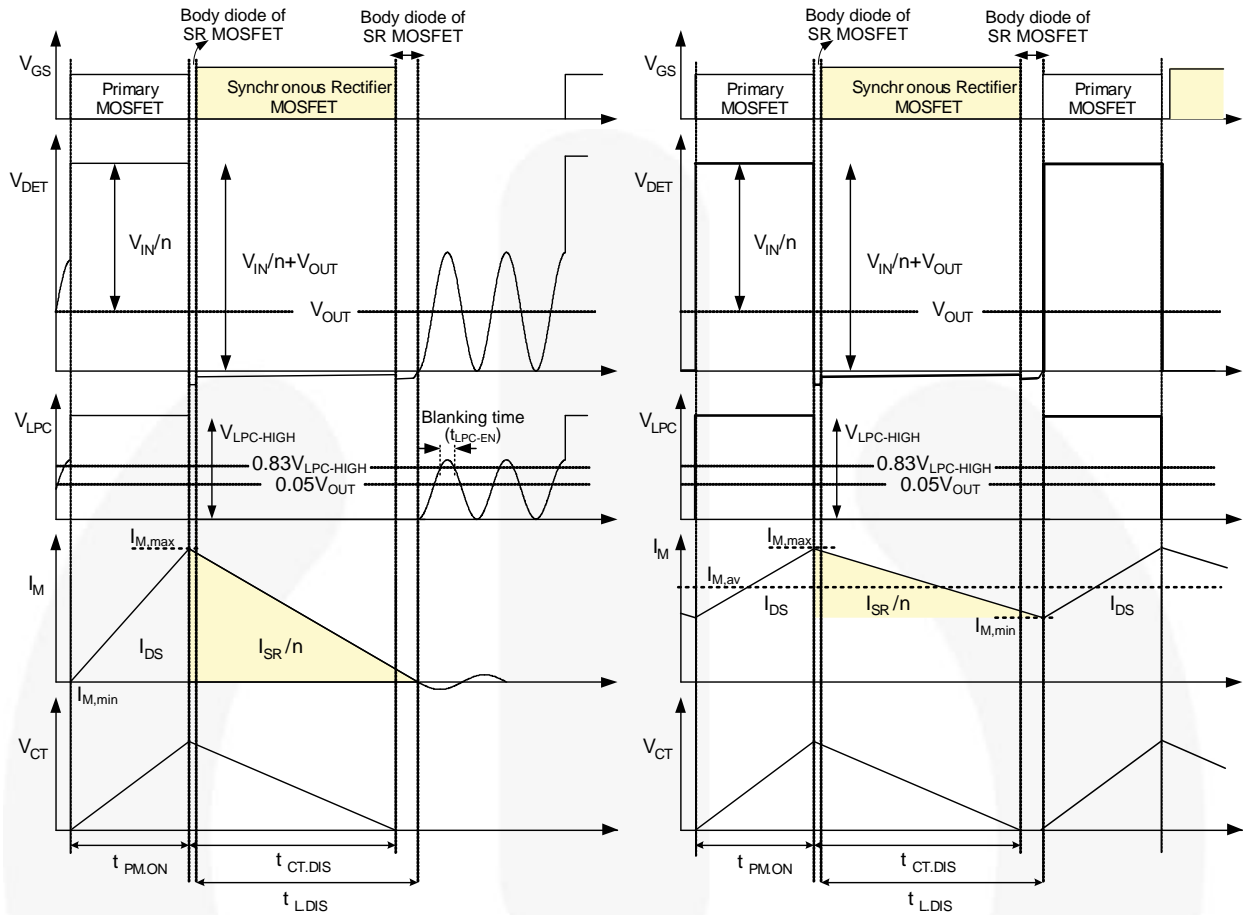
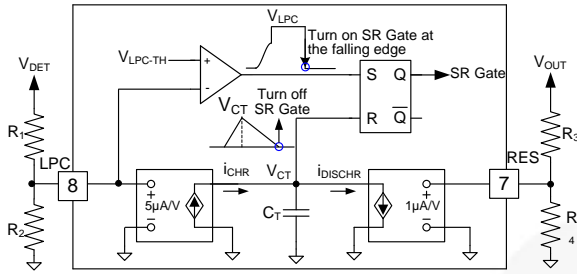

Figure 18. Typical Waveforms of Linear-Predict Timing Control in CCM and DCM/QR Flyback
Figure 19. Simplified Linear-Predict Block
The SR MOSFET turn-off timing is determined by linear-predict timing control and the operation principle is based on the volt-second balance theorem. The volt-second balance theorem states that the inductor average voltage is zero during a switching period in steady state, so the charge voltage and charge time product is equal to the discharge voltage and discharge time product. In flyback converters, the charge voltage on the magnetizing inductor is input voltage (V_{IN}), while the discharge voltage is nV_{OUT} , as the typical waveforms show in Figure 18. The following equation can be drawn:
FAN6204 uses the LPC and RES pins with two sets of voltage dividers to sense DET voltage (V_{DET}) and output voltage (V_{OUT}), respectively; so V_{IN}/n , $t_{PM,ON}$, and V_{OUT} can be obtained. As a result, $t_{L,DIS}$, which is the on-time of SR MOSFET, can be predicted by Equation (1). As shown in Figure 18, the SR MOSFET is turned on when the SR MOSFET body diode starts conducting and DET voltage drops to zero. The SR MOSFET is turned off by linear-predict timing control.
The linear-predict timing-control circuit generates a replica (V_{CT}) of magnetizing current of flyback transformer using internal timing capacitor (C_T), as shown in Figure 19. Using the internal capacitor voltage, the inductor discharge time ($t_{L,DIS}$) can be detected indirectly, as shown in Figure 18. When C_T is discharged to zero, the SR controller turns off the SR MOSFET.
Referring to Figure 18; when LPC voltage is higher than V_{LPC-EN} over a blanking time (t_{LPC-EN}) and lower than $V_{LPC-TH-HIGH}$ ($0.05 V_{OUT}$), then SR MOSFET can be triggered. Therefore, V_{LPC-EN} must be larger than $V_{LPC-TH-HIGH}$ or the SR MOSFET cannot be turned on. When designing the voltage divider of LPC, R_1 and R_2 should be considered as:
The typical waveforms of CCM operation in steady state are shown as Figure 18. When the primary-side MOSFET is turned on, the energy is stored in L_m . During the on-time of the primary-side MOSFET ($t_{PM.ON}$), the magnetizing current (I_M) increases linearly from $I_{M,min}$ to $I_{M,max}$. Meanwhile, internal timing capacitor (C_T) is charged by current source ($i_{CHR} - i_{DISCHR}$) proportional to V_{IN} , so V_{CT} also increases linearly.
In DCM / QR operation, when primary-side MOSFET is turned off, the energy stored in L_m is fully released to the output at the turn-off timing of primary-side MOSFET. Therefore, the DET voltage continues resonating until the primary-side MOSFET is turned on, as depicted in Figure 18. While DET voltage is resonating, DET voltage and LPC voltage drop to zero by resonance, which can trigger the turn-on of the SR MOSFET. To prevent fault triggering of the SR MOSFET in DCM operation, blanking time is introduced to LPC voltage. The SR MOSFET is not turned on even when LPC voltage drops below $0.05 V_{OUT}$ unless LPC voltage stays above $0.83 V_{LPC-HIGH}$ longer than the blanking time (t_{LPC-EN}). The turn-on timing of the SR MOSFET is inhibited by gate inhibit time ($t_{INHIBIT}$), once the SR MOSFET turns off, to prevent fault triggering.